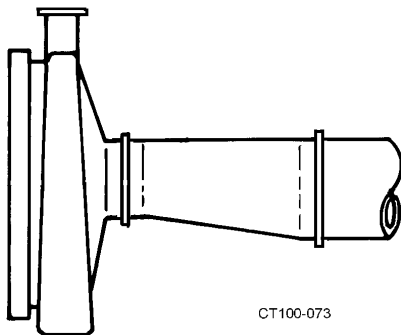

Figure 16 - Correct Eccentric Installation
- If a reducer is connected to an inlet, use an eccentric-type reducer to prevent problems caused by trapped air (Figure 16).